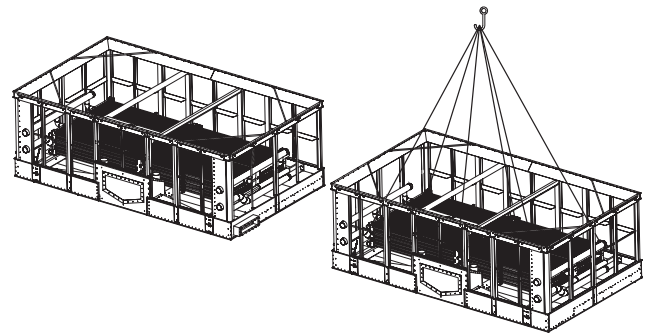

Figure 10 – Equalizer Flume Rigging Detail. Models 672-23M through 272-46Q have two bottom sections and one equalizer flume.
4. Rig the second bottom section adjacent to the equalizer flume box on the steel support as shown in Figure 10.